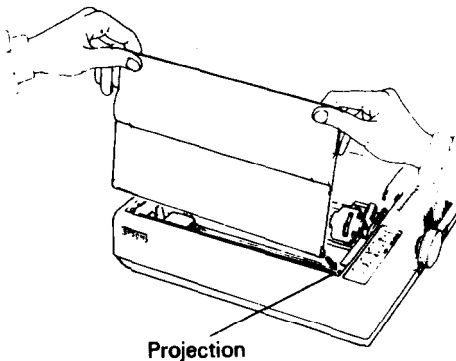

Fig. 7 Remounting of Printer Lid
STEP 1. Fit the right side of the printer lid onto the projection located at the right corner of the Printer's upper case. (See Fig. 7)